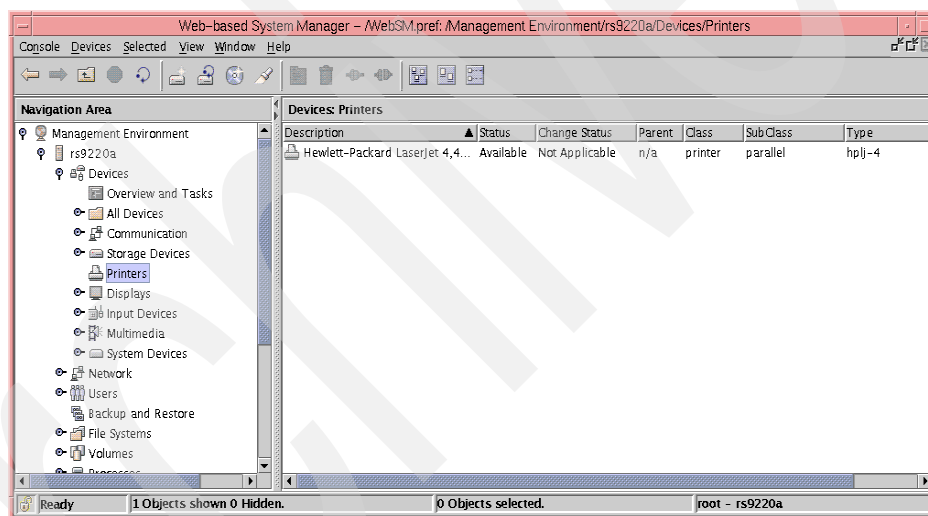

Figure 5. Showing added device
10. The device was added successfully and the panel in Figure 5 was displayed: